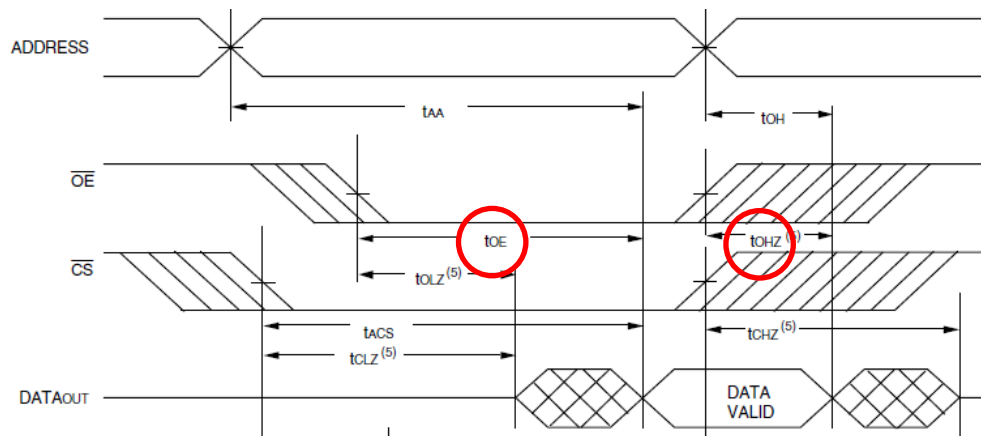

Figure 3.1: SRAM Read access timing diagram
3. Figure 3.1 and 3.2 shows the read and write access timing diagram of a SRAM. It is the signal that SRAM expects or output during a Read/Write operation. When a processor interface to the SRAM, it needs to output signals conforming to what the SRAM expect and needs to read in signals SRAM generates, all within specified timings e.g. t_{OE} , t_{OHZ} etc. Describe the significance of the following parameters during Read/Write operation, and whether the parameters should be a min or max value.